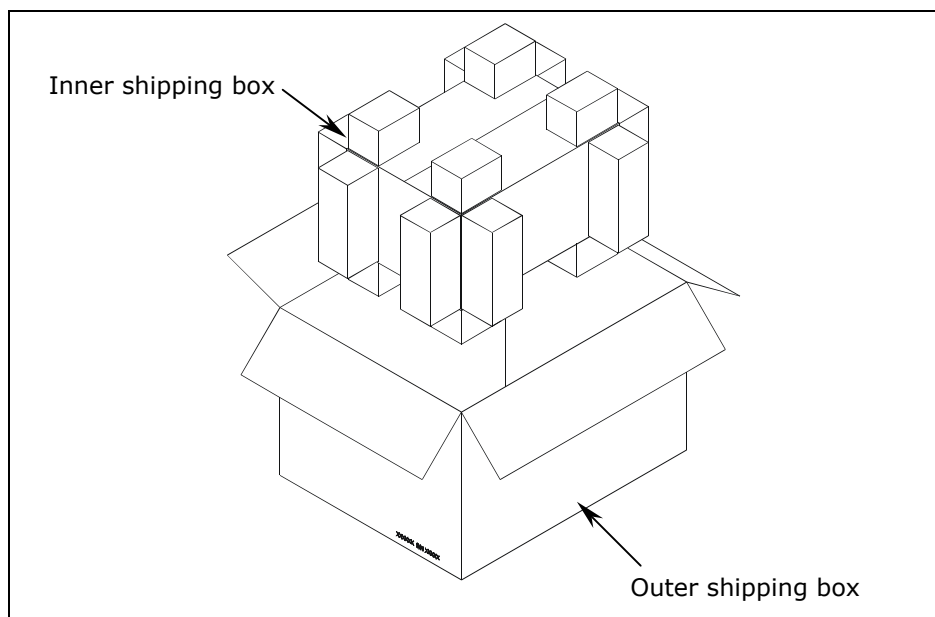
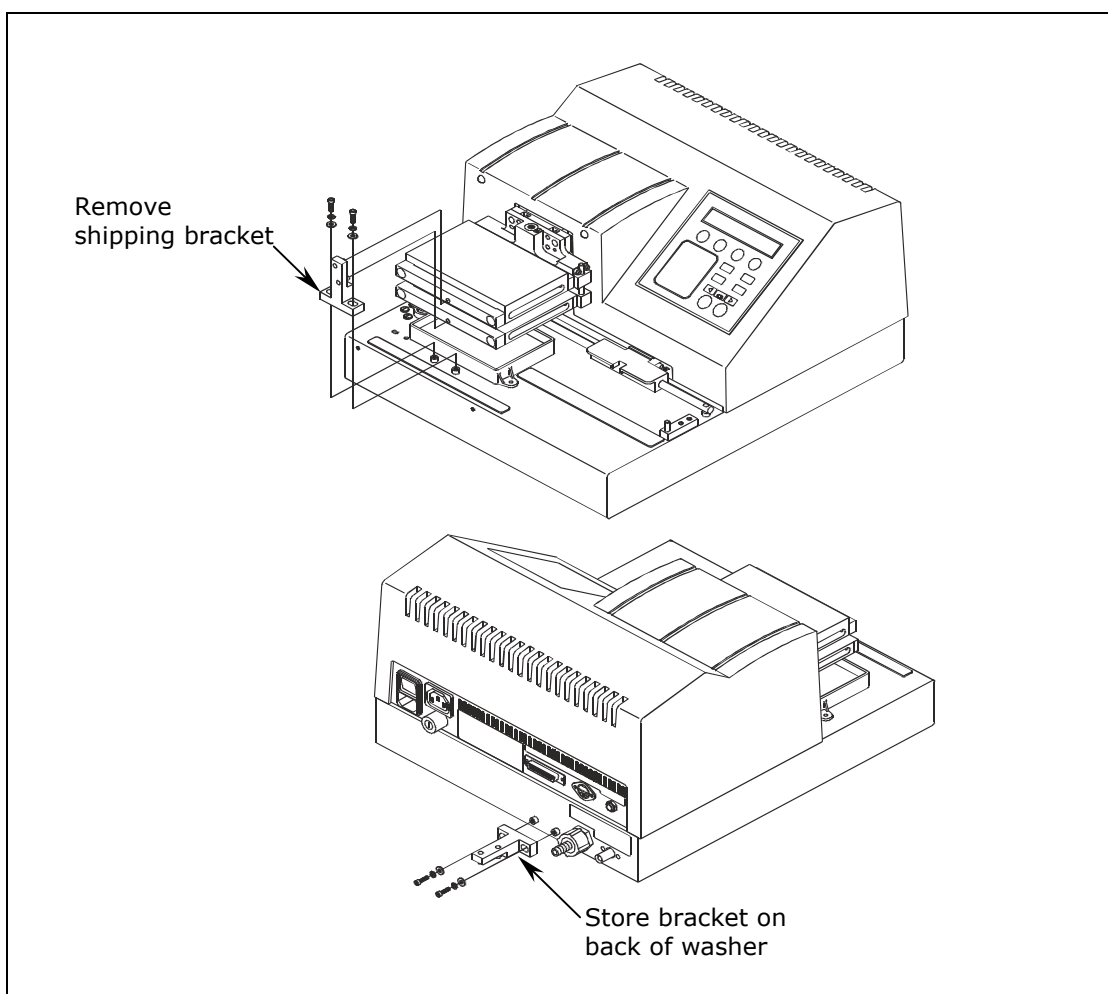

Figure 2: Removing the Inner Shipping Box
Figure 8: Removing and Storing the Manifold Shipping Bracket
Refer to the unpacking instructions and **Figures 2** through **7** on the following pages when removing the instrument, its accessories, and the external valve module from the shipping containers, and **Figure 8** for removing the manifold shipping bracket.
2. Lift out the inner shipping box that contains the washer and accessories (**Figure 2**) and place it on a level surface.
Refer to **Figure 8** for the following (the Select model is shown):